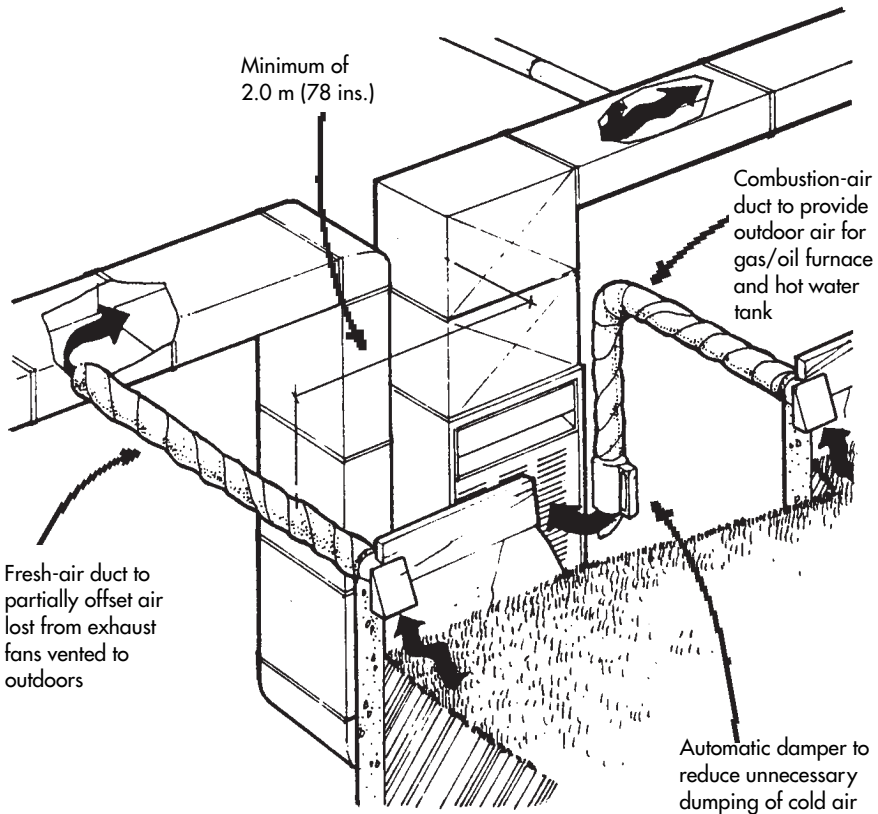

Figure 20: Reducing pressure differences with fresh-air and combustion-air ducts
- Install an insulated duct to provide outdoor air to a gas or oil furnace, boiler or water heater (see **figure 20**). To reduce heating costs and avoid comfort problems, equip this combustion-air duct with an approved automatic damper or diffuser which activates only when the furnace, boiler or water heater turns on.
- If the home will have a forced-air heating system, install an insulated duct from the outdoors to the main return-air duct (see **figure 20**). This fresh-air duct will partially offset the air lost from exhaust fans vented to the outdoors such as the kitchen fan, bathroom fan, clothes dryer or central vacuum system.